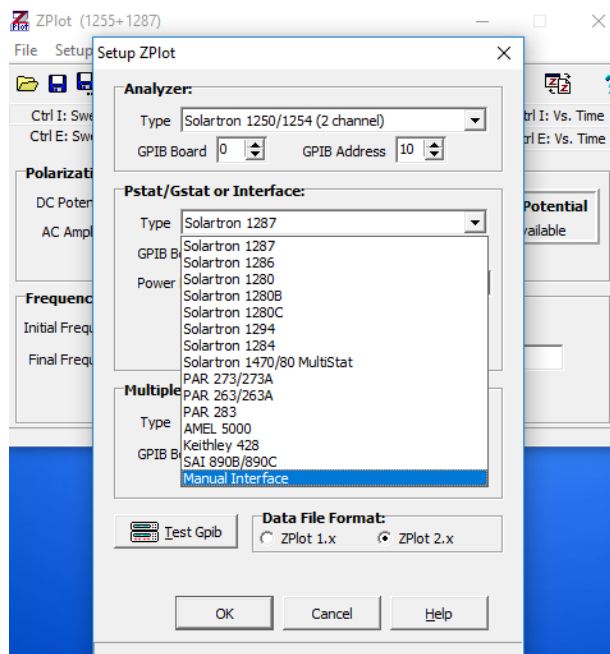

Figure 5
c. Set the “Pstat/Gstat or Interface:” type to “Manual Interface” (Figure 5). This will ensure that any error messages seen in the subsequent tests are related to the FRA.